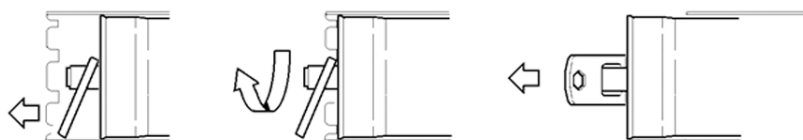

Fig. 23: Removal sequence of the membrane
12. With the key-wrench firmly locked on the membrane tube, the membrane should be pulled out of the membrane housing with a rotating pull movement. With the lip seal free of the membrane housing the membrane can be pulled out further without any effort. See figure 23 below for the membrane removal sequence.